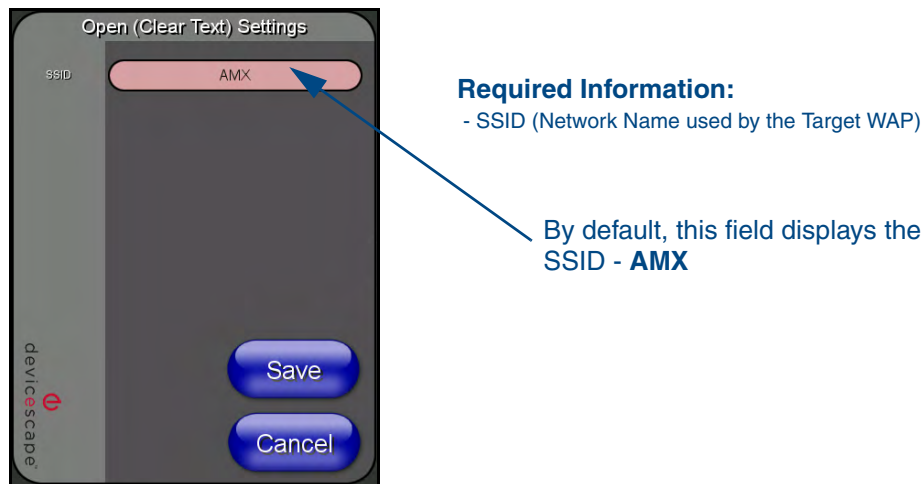

FIG. 19 Wireless Settings page - Open (Clear Text) security method
3. From within the Wireless Security section, press the **Open (Clear Text)** button to open the Open (Clear Text) Settings dialog (FIG. 19). An Open security method does not utilize any encryption methodology but does require that an SSID (alpha-numeric) be entered. Using this method causes network packets to be sent out as unencrypted text.
4. Press the red *SSID* field (FIG. 19) to display an on-screen *Network Name (SSID)* keyboard.
7. From the Open (Clear Text) Settings page (FIG. 19), press the **Save** button to incorporate your new information into the panel and begin the communication process.